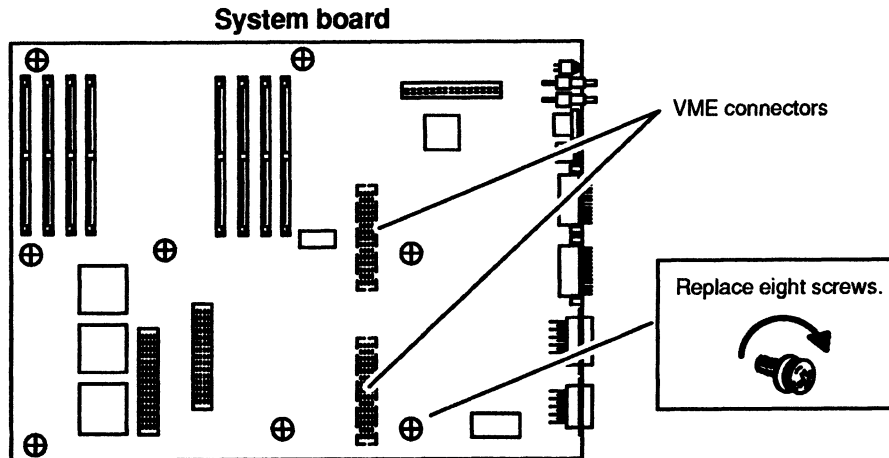

Figure 5-11 Securing the System Board Bracket to the Computer Unit
5. Press the system board firmly on each side of the VME connector pins shown in Figure 5-11. Press on one side of the top pins and then on the other side of the top pins, and continue to work your way down the connectors pressing on one side of the pins and then the other. Since the pins are surrounded by components, you will have to press on the components.
6. Using the medium Phillips screwdriver, secure the system board to the computer unit with the eight screws and washers shown in Figure 5-11.